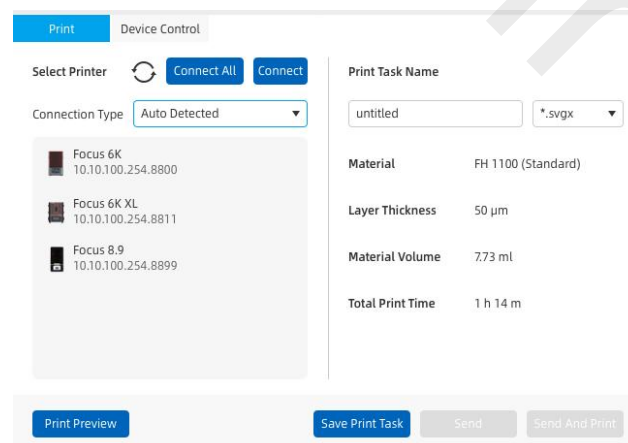

Figure 28 Automatic detection of machine interface diagram
- Click the [Print] icon on the right of the menu bar in the software. In the pop-up print dialog box, select the connection mode [Auto Detected], and the connectable machine will appear, as shown in figure. 28.